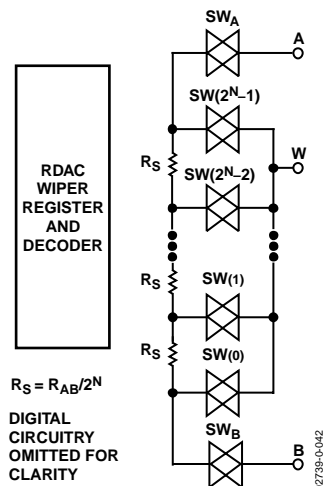

Figure 43. Equivalent RDAC Structure (Patent Pending)
The patent-pending RDAC contains multiple strings of equal resistor segments with an array of analog switches that act as the wiper connection. The number of positions is the resolution of the device. The AD5231 has 1024 connection points, allowing it to provide better than 0.1% settability resolution. Figure 43 shows an equivalent structure of the connections among the three terminals of the RDAC. The SW_A and SW_B are always on, while the switches SW(0) to SW(2^N–1) are on one at a time, depending on the resistance position decoded from the data bits. Because the switch is not ideal, there is a 15 Ω wiper resistance, R_w. Wiper resistance is a function of supply voltage and temperature. The lower the supply voltage or the higher the temperature, the higher the resulting wiper resistance. Users should be aware of the wiper resistance dynamics if accurate prediction of the output resistance is needed.
The 10-bit data-word in the RDAC latch is decoded to select one of the 1024 possible settings. The following discussion describes the calculation of resistance R_{WB} at different codes of a 10 k Ω part. For V_{DD} = 5 V, the wiper's first connection starts at Terminal B for data 0x000. R_{WB}(0) is 15 Ω because of the wiper resistance, and because it is independent of the nominal resistance. The second connection is the first tap point where R_{WB}(1) becomes 9.7 Ω + 15 Ω = 24.7 Ω for data 0x001. The third connection is the next tap point representing R_{WB}(2) = 19.4 Ω + 15 Ω = 34.4 Ω for data 0x002 and so on. Each LSB data value increase moves the wiper up the resistor ladder until the last tap point is reached at R_{WB}(1023) = 10005 Ω . See Figure 43 for a simplified diagram of the equivalent RDAC circuit. When R_{WB} is used, Terminal A can be left floating or tied to the wiper.